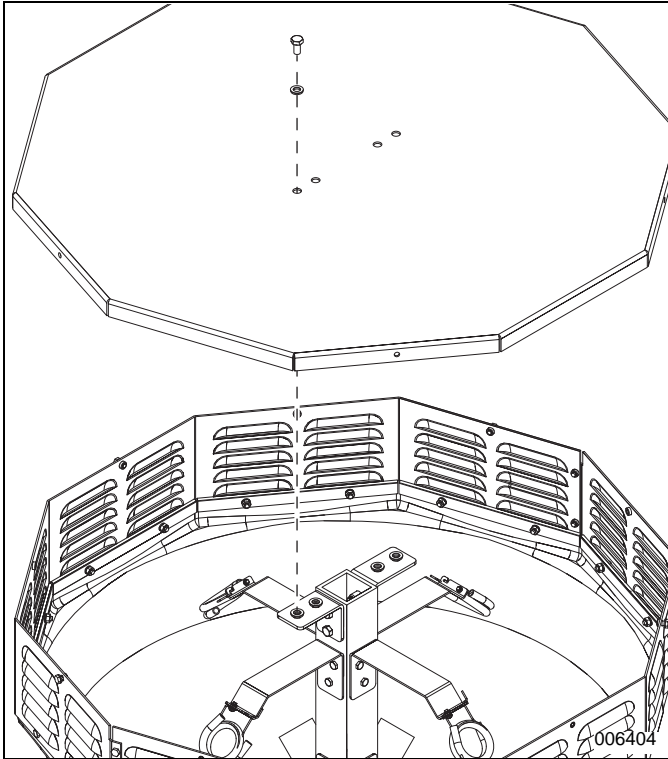

Figure 8. Lid Removal
- See **Figure 8**. Remove and retain hardware securing top of lid. Remove and retain lid.
- See **Figure 8**. Install lid using hardware retained in step 3, lubricating surfaces of rubber washers before installing. Tighten hardware to 19.7 ft-lb (26.7 Nm).
- See Figure 8. On the light fixture, remove and retain hardware securing top of lid. Remove and retain lid.
- See Figure 8. Install lid using hardware retained in step 3, lubricating surfaces of rubber washers before installing. Tighten hardware to 19.7 ft-lb (26.7 Nm).